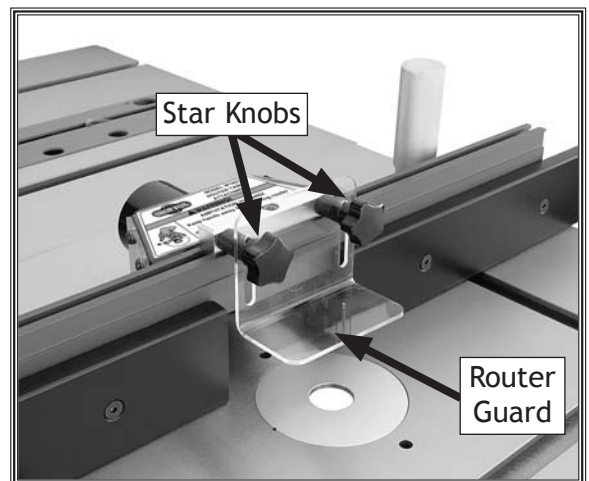

Figure 16. Router guard installed.
13. Attach the plastic router guard to the guard bracket with the (2) star knob bolts, as shown in Figure 16.